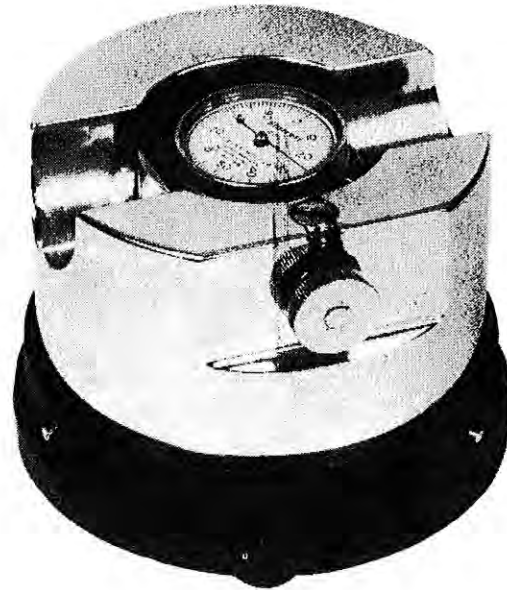

Figure 2. Dial Type Vibration Indicator
*Rebalance drive shafts whenever parts are replaced.* Drive shafts may be rebalanced on the tower\* by removing the fan on that cell. Use a portable vibration indicator similar to the unit shown in Figure 2 to determine amplitude of vibration in mils.